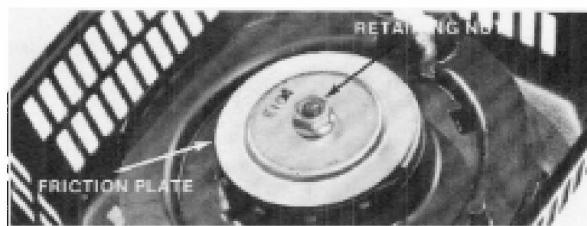

Figure 3-30
2. Turn the starter over and unwind the starter rope to release spring tension on the starter pulley. See step 1, 2, 3 on Rope Replacement, page 21. Carefully remove the recoil assembly retaining nut. The nut is under a slight amount of spring pressure. Slowly back off the nut until the spring pressure is released. See Fig. 3-30.
4. Install the friction disc and mounting nut. Use a thread locker on the nut; e.g. Loctite 242. See Fig. 3-30.